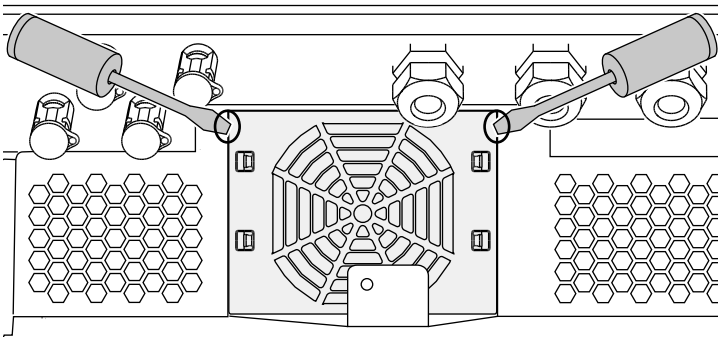

Fig. 60: Loosen fan grill
2. Dismantle the fan. To do this, place a screwdriver at the edge of the fan grill and apply a little pressure to the fan grill. ↗️ **Fig. 60**